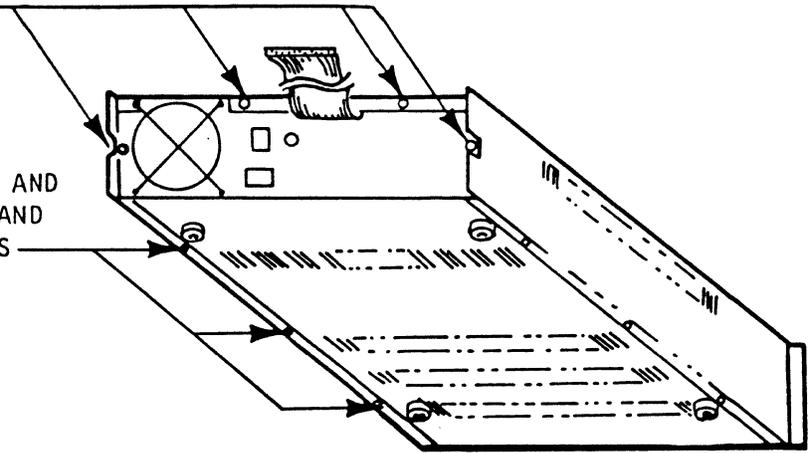

Figure 2-1a. Removal of Top/Sides Assembly
The WINC-08 is designed to mount in a rack that is 19 inches wide, 26 inches deep, and 5-1/4 inches high. Figures 2-1a through 2-1f illustrate the rack mounting procedure.
- Step 1. Remove four screws and lock washers from the back panel. Save the screws and lock washers for later use (see Figure 2-1a).
- Step 2. Turn the unit upside down on a nonabrasive surface. Remove the six screws holding the baseplate (see Figure 2-1a).